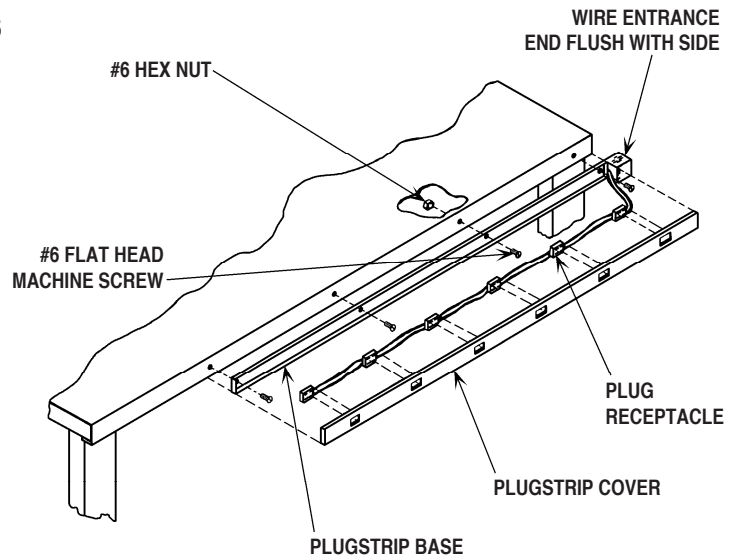

FIGURE 31
2. Snap plug receptacles into the plugstrip cover. See Figure 31. Position the plugstrip cover over the wires in the plugstrip base so that the connecting wires on the last receptacle are placed in the wire entrance end. Snap the plugstrip cover into the plugstrip base. The final electrical hook-up to the plugstrip may now be made through the wire entrance end.